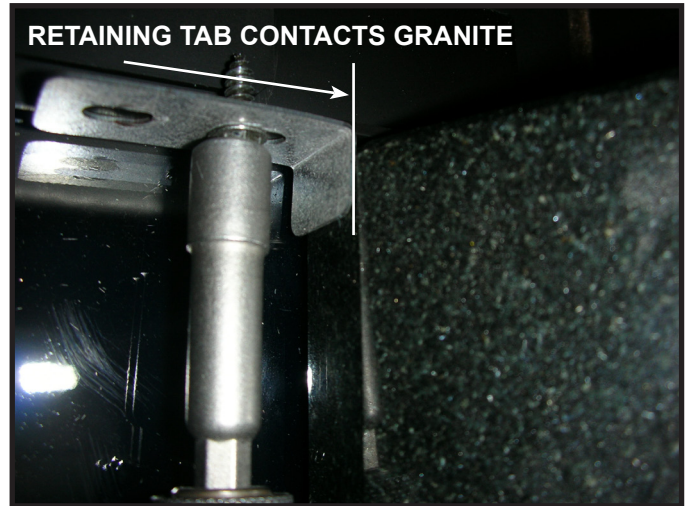

Figure 21. Placing Outer Corner Granite Trim Piece.
13. Install outside corner trim pieces. Slowly slide into position as shown in Figure 21.